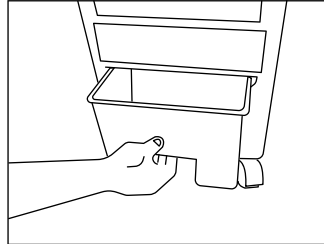

Fig. 5
2. Pull out the water tank. (Fig. 5)